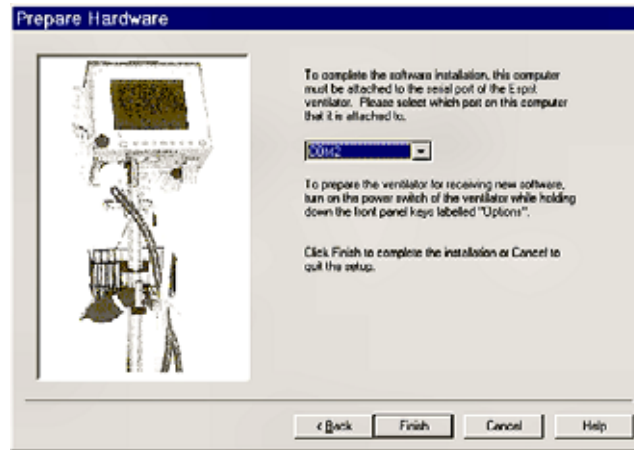

Figure 7-3: Prepare Hardware Screen
5. The *Prepare Hardware* screen appears (Figure 7-3). Connect a standard 9-pin male-female RS-232 null modem cable between the PC serial port and the ventilator serial port and select the COM port in use.